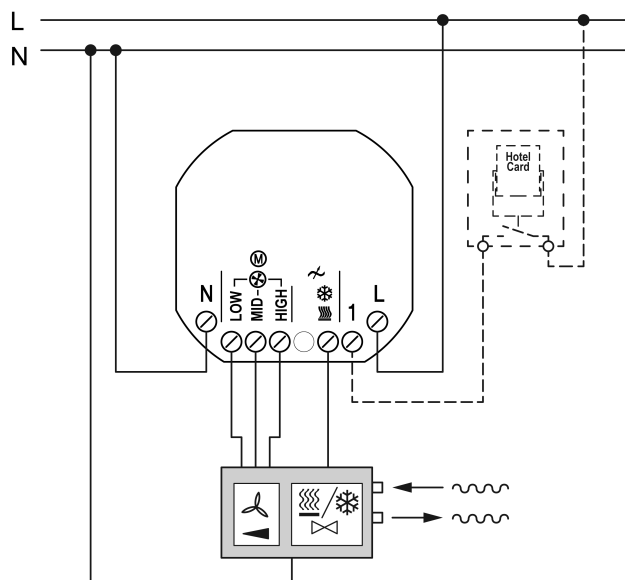
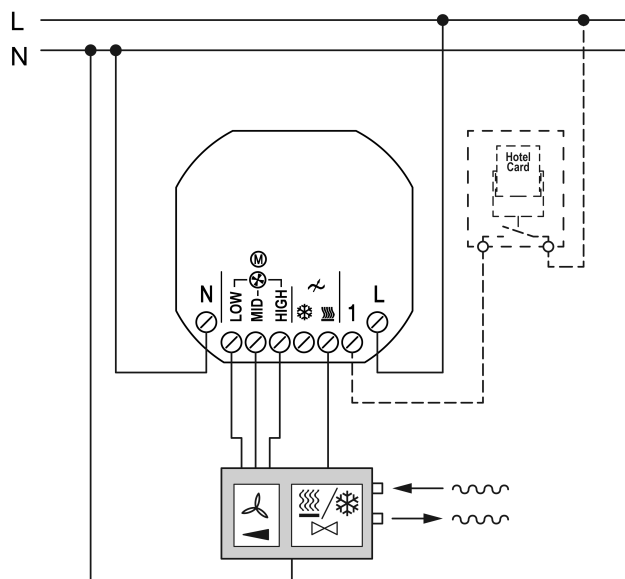

Figure 5: Connection of a 2-pipe fan coil unit with hotel card switch
Figure 6: Connection of a 2-pipe fan coil unit to a 4-pipe fan coil controller
- (8) Power supply unit
- (9) Frame
- (10) Cover
- Connect the fan coil unit for 2-pipe operation to a 2-pipe (Figure 5) or 4-pipe (Figure 6) power supply unit variant.